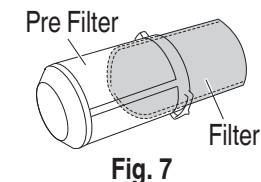

Fig. 7
- (3) Check the filter (**Fig. 7**)